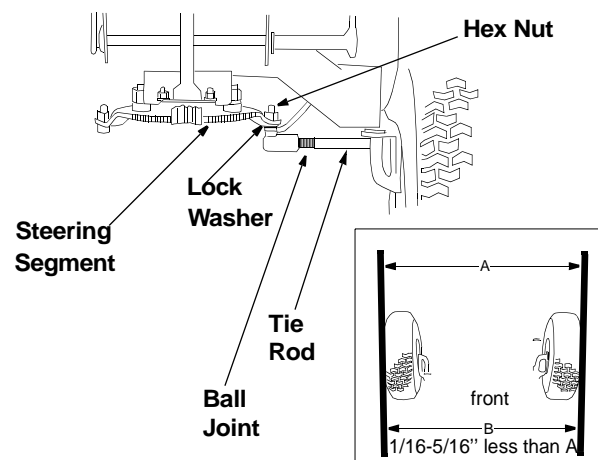

Figure 13
- Remove the 3/8" hex nut which holds the ball joint to the steering segment. See Figure 13.
- Adjust the ball joint in or out until the wheels toe-in approximately 1/16-5/16" (Dimension "B" should be approximately 1/16-5/16" less than dimension "A"). See Figure 13.